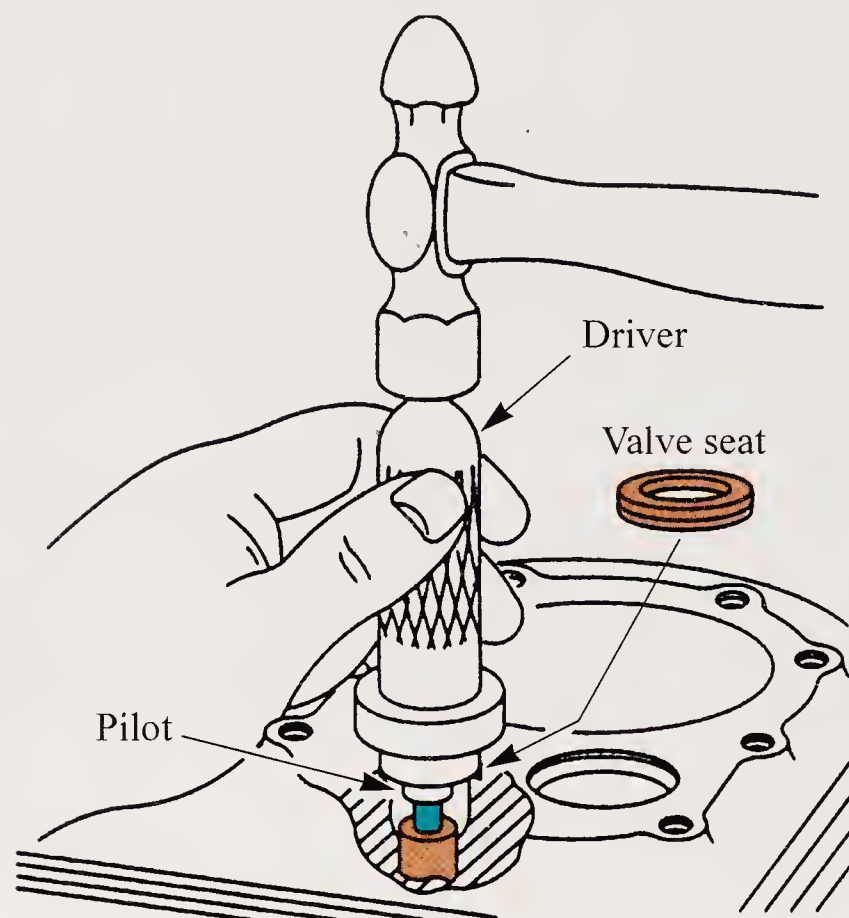

Figure 17-57. Driving the valve insert into place with a driver tool and ball peen hammer. A pilot guides the driver tool. (Briggs & Stratton Corp.)
4. Drive the valve insert into place with the driver. See **Figure 17-57**.